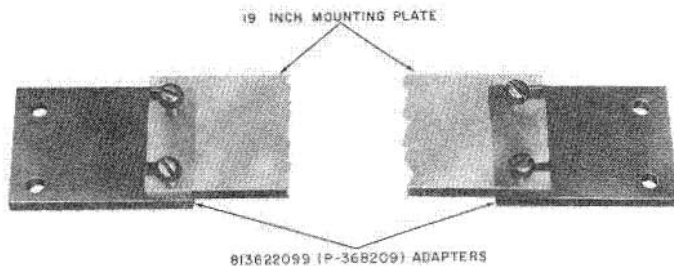

Fig. 46—813622099 (P-36B209) Adapter
10.02 The 813622099 (P-36B209) adapter (Fig. 46) consists of two extensions required for mounting one 1-3/4 by 19-inch mounting plate on 23-inch gates and relay racks.